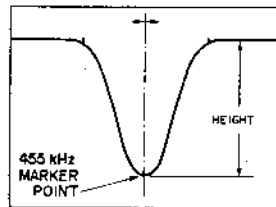

Fig. 15
NOTE: A noise element should not enter the single peaked curve shown in Fig. 15.
- 5) Adjust the cores of FM-AM IF P.C. Board IFT T7(BLK) (refer to Fig. 5) so that the 455 kHz marker point of the single peaked curve displays maximum amplitude as shown in Fig. 15.
- 6) Adjust the cores of FM-AM IF P.C. Board IFT T6(WHT) and T5(YLW) (refer to Fig. 5) so that the left and right rise up characteristics of the single peaked curve shown in Fig. 15 are identical from the center (indicated by the dotted line in the figure).